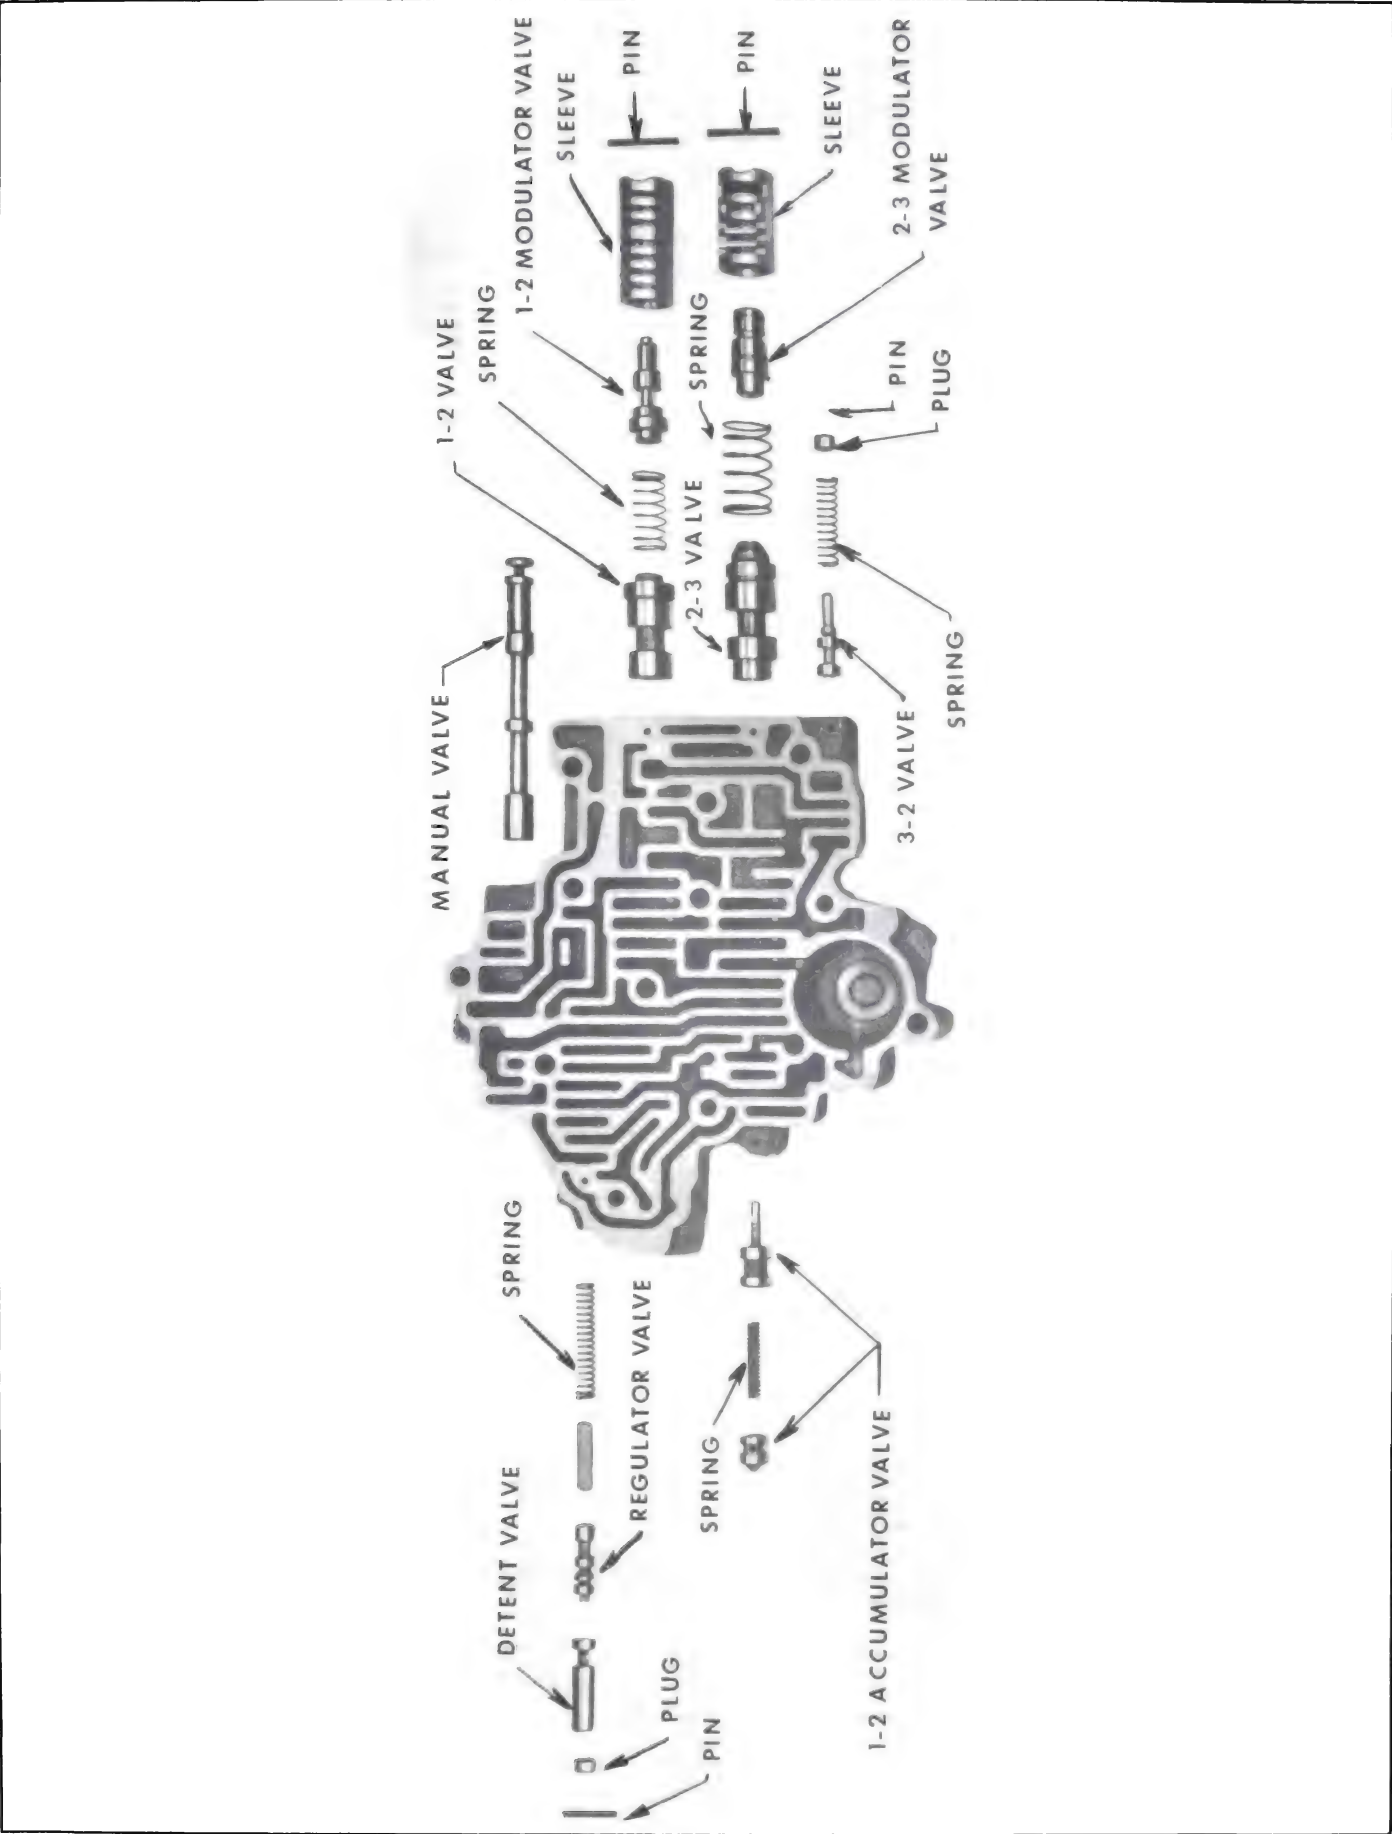

Figure 5-574
5. Install the detent regulator valve as shown in Figure 5-574.